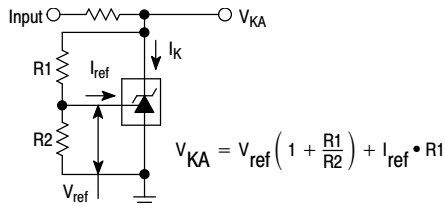

Figure 2. Test Circuit for $V_{KA} > V_{ref}$
| Ratio of Change in Reference Input Voltage to Change in Cathode to Anode Voltage I _K = 10 mA (Figure 2), ΔV _{KA} = 10 V to V _{ref} ΔV _{KA} = 36 V to 10 V | $\frac{\Delta V_{ref}}{\Delta V_{KA}}$ | – – | –1.4 –1.0 | –2.7 –2.0 | – – | –1.4 –1.0 | –2.7 –2.0 | mV/V |
| Reference Input Current (Figure 2) I _K = 10 mA, R1 = 10 k, R2 = ∞ T _A = 25°C T _A = T _{low} to T _{high} (Note 1) | I _{ref} | – – | 1.8 – | 4.0 6.5 | – – | 1.8 – | 4.0 5.2 | μA |
| Reference Input Current Deviation Over Temperature Range (Figure 2, Note 1, 4) I _K = 10 mA, R1 = 10 k, R2 = ∞ | ΔI _{ref} | – | 0.8 | 2.5 | – | 0.4 | 1.2 | μA |
- The dynamic impedance Z_{KA} is defined as: $|Z_{KA}| = \frac{\Delta V_{KA}}{\Delta I_K}$. When the device is programmed with two external resistors, R1 and R2, (refer to Figure 2) the total dynamic impedance of the circuit is defined as: $|Z_{KA}'| \approx |Z_{KA}| \left(1 + \frac{R1}{R2} \right)$
| Ratio of Change in Reference Input Voltage to Change in Cathode to Anode Voltage I _K = 10 mA (Figure 2), ΔV _{KA} = 10 V to V _{ref} ΔV _{KA} = 36 V to 10 V | $\frac{\Delta V_{ref}}{\Delta V_{KA}}$ | – – | –1.4 –1.0 | –2.7 –2.0 | – – | –1.4 –1.0 | –2.7 –2.0 | – – | –1.4 –1.0 | –2.7 –2.0 | mV/V |
| Reference Input Current (Figure 2) I _K = 10 mA, R1 = 10 k, R2 = ∞ T _A = 25°C T _A = T _{low} to T _{high} (Note 4) | I _{ref} | – – | 1.8 – | 4.0 6.5 | – – | 1.8 – | 4.0 5.2 | – – | 1.1 – | 2.0 4.0 | μA |
| Reference Input Current Deviation Over Temperature Range (Figure 2, Note 4) I _K = 10 mA, R1 = 10 k, R2 = ∞ | ΔI _{ref} | – | 0.8 | 2.5 | – | 0.4 | 1.2 | – | 0.8 | 2.5 | μA |
6. The dynamic impedance Z_{KA} is defined as $|Z_{KA}| = \frac{\Delta V_{KA}}{\Delta I_K}$. When the device is programmed with two external resistors, R1 and R2, (refer to Figure 2) the total dynamic impedance of the circuit is defined as: $|Z_{KA}'| \approx |Z_{KA}| \left(1 + \frac{R1}{R2} \right)$